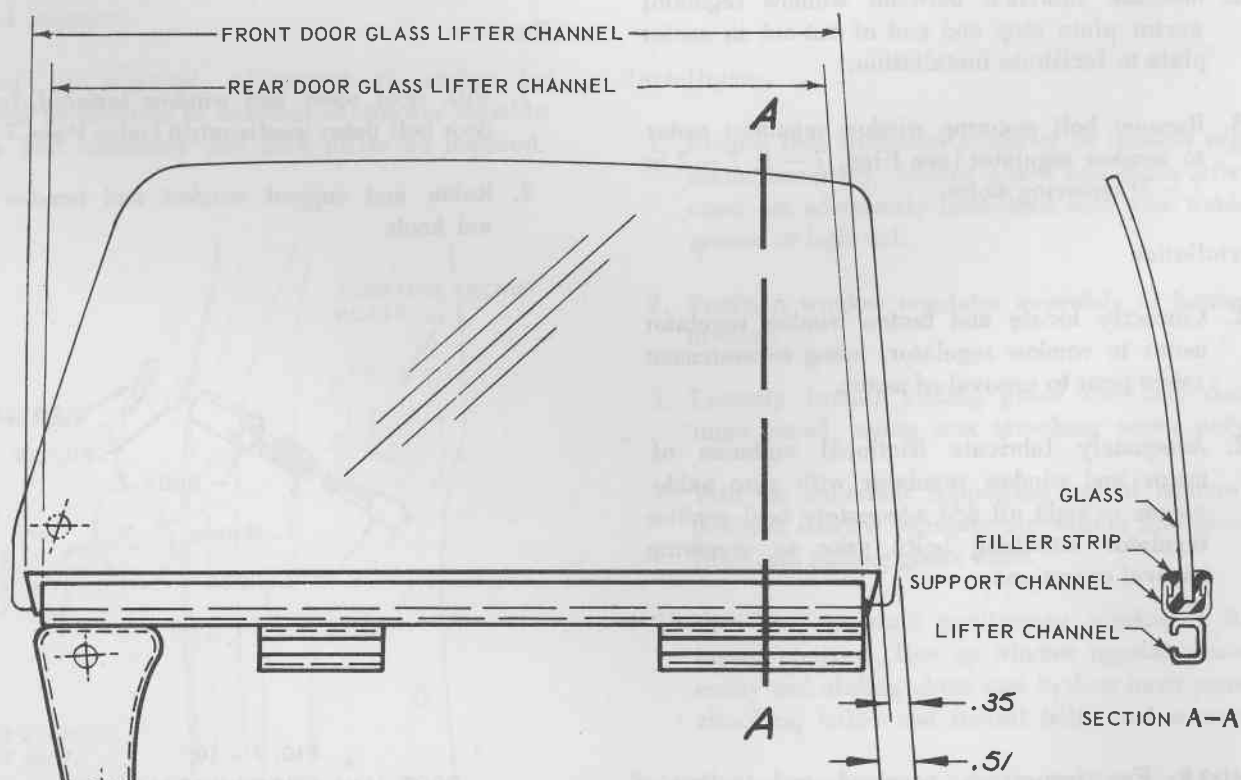

FIG. 7 - 11
6. On coupe doors, install and set window travel stops and window anti-rattle brackets (see Fig. 7 - 2).